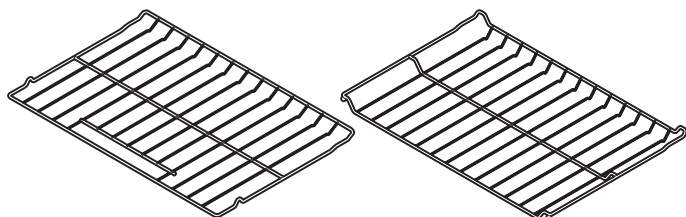

Figure 1 - All models
- **Flat handle oven rack** (All models - Figure 1).